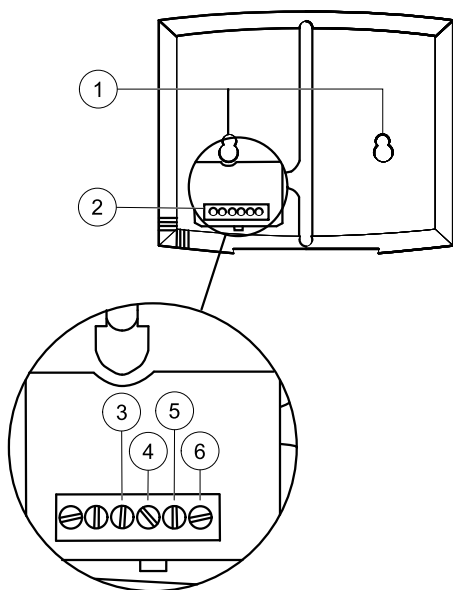

Fig. 17 Control panel wire connections
If needed, drill two holes in the wall to hang the control panel (center to center: 60 mm) (pos.1, figure 17).